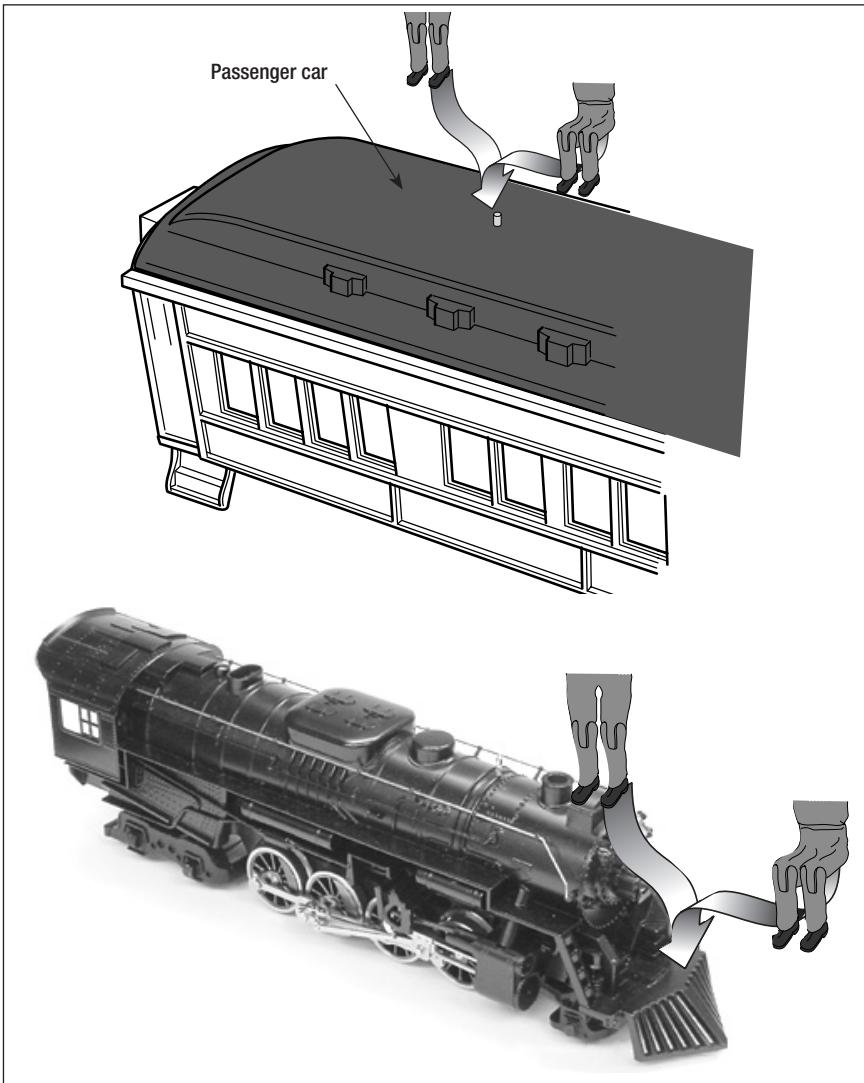

Figure 8. Figure installation
**T**he four figures included with this train set are equipped with holes that allow them to ride on the train. As illustrated in Figure 8, press the figures onto the posts located on the roofs of the passenger cars and on the locomotive.